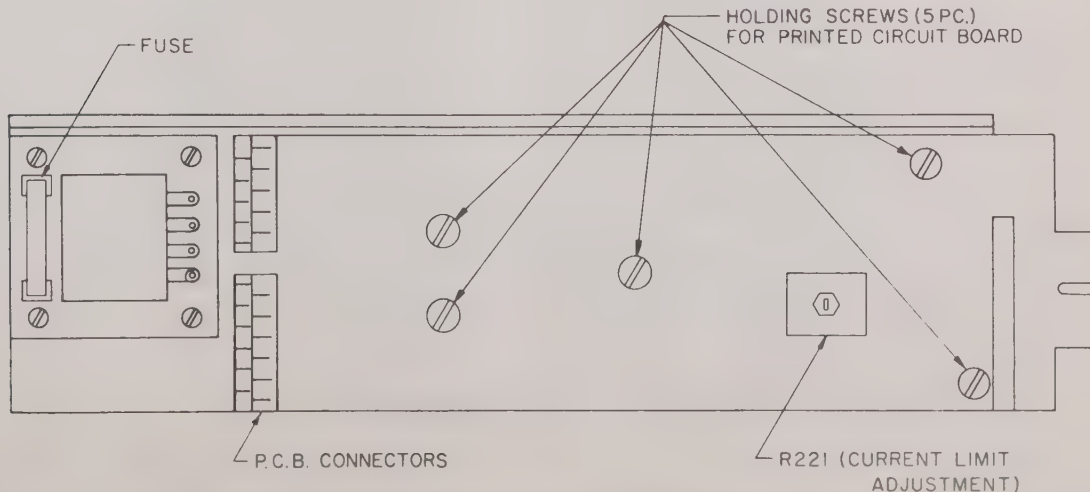
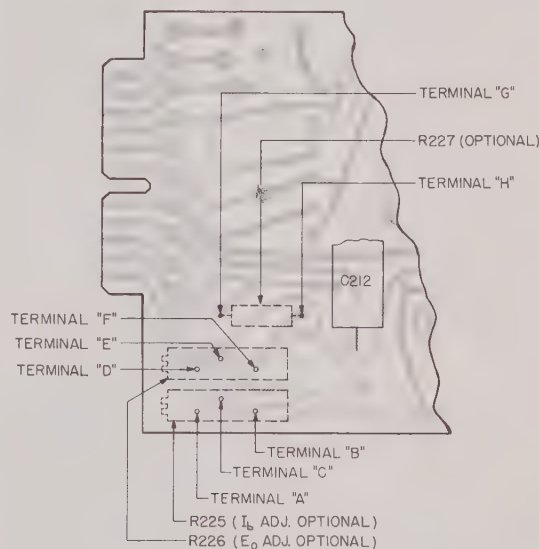

FIG. 5-1 LOCATION OF CURRENT LIMITING ADJUSTMENT POTENTIOMETER. LOCATION OF MOUNTING SCREWS
FIG. 5-2 INSTALLATION OF OPTIONAL CONTROL COMPONENTS
(Refer to Fig. 5-1)
(Refer to Fig. 5-1 and Fig. 5-2, also see note following paragraph 5-7d.)
- Remove the five mounting screws as indicated on Fig. 5-1. Remove PCB connectors and lift PCB from assembly.
- b) Install components as directed in the following paragraphs and as shown in Fig. 5-2.
- b) Insert 1K ohm, W.W. potentiometer, BOURNS "Trimpot" No. 3067S-1-102, KEPSCO Part Number 115-0739 or equivalent in the space outlined on Fig. 5-2. Solder in place.
- c) Turn potentiometer to its approximate mid-position. Install a precision resistor ( $R_{vc}$ ) across barrier strip terminals (8) and (9) and connect a precision voltmeter across the output terminals (5) and (6). Since the bridge current ( $I_b$ ) is 1 mA, and the control ratio is 1K ohm/V, the output voltage  $E_o$  will be equal to  $E_o = I_b R_{vc}$ ; i.e., for each 1000 ohms of voltage control resistance ( $R_{vc}$ ) one volt of output voltage will appear across the output terminals.
- a) If the PBX Power Supply is used as a fixed source, the voltage control resistance,  $R_{vc}$ , can be internally installed on the printed circuit board as indicated in Fig. 5-2.
- 3) For PBX Models exceeding 15 volts output voltage, a combination of "Trimpot" and fixed resistor can be installed for limited adjustment of the output voltage. Install the variable resistor as described in (2). Insert fixed resistor between points H and G. Any combination of fixed and adjustable resistors can be chosen as long as high quality wire-wound components with low temperature coefficient are used.
- 5-11 Servicing beyond simple part replacements should be attempted only by personnel thoroughly familiar with solid state components and with experience in closed loop circuitry. Since "troubleshooting charts" containing resistance and voltage measurements at various places in the equipment are not very useful in feedback amplifiers, we have not included them in this manual. Presented instead is a fairly extensive circuit description (Section IV), detailed diagrams showing adjustments and parts location (see Figs. 5-1, 5-2, 5-5, and 5-6), as well as the Main Schematic, Fig. 5-7, which together should provide the necessary information for qualified personnel in the repair of this instrument. KEPSCO Field Engineers and the KEPSCO Repair Department are always available for prompt service in difficult cases.